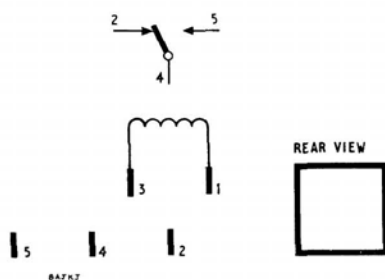

FIG. 3.—SINGLE COIL (RELAY No. 3/401)
3. Tag numbering.—The coil and contact connexions are wired to the tag assemblies, as shown in Figs. 3, 4 and 5. The coil connexions are taken to the upper set of tags and the contact connexions to the lower set.